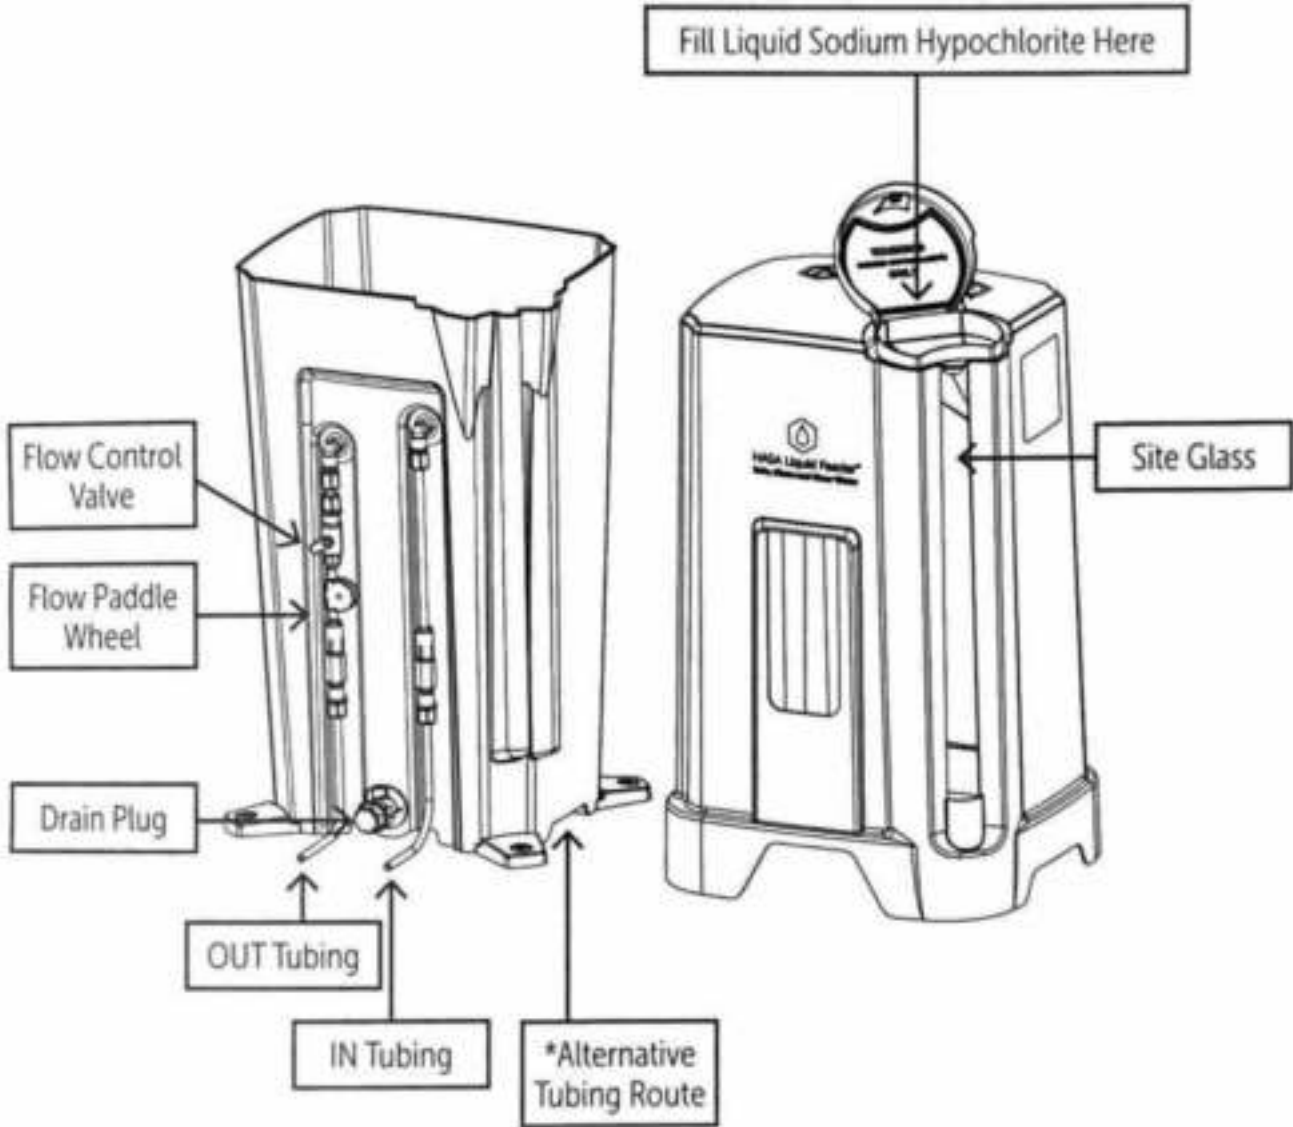

FIGURE 4: FLOAT ARM INSTALLATION TOP VIEW
- E. "IN" and "OUT" Float Arms (Figure 4—one each) (Photo #1)
- H. 1/4" NPT x 3/8" Supply Adapters (2) (for supply and return lines from Feeder) (Photo #4)
**Step Eight:** Install float arms, as marked, in float arm housing inside of feeder. Place "IN" float into "IN" housing, as shown. Place "OUT" arm in "OUT" housing. (Figure 4, See Photo #1)
**Step Nine:** After checking that all connections are tight and secure, fill the tank with water to the "OUT" float level. (Figure 4). Fresh water from the hose or clean pool water can be used. When the HLF is completely filled, some bulging of the reservoir may occur.